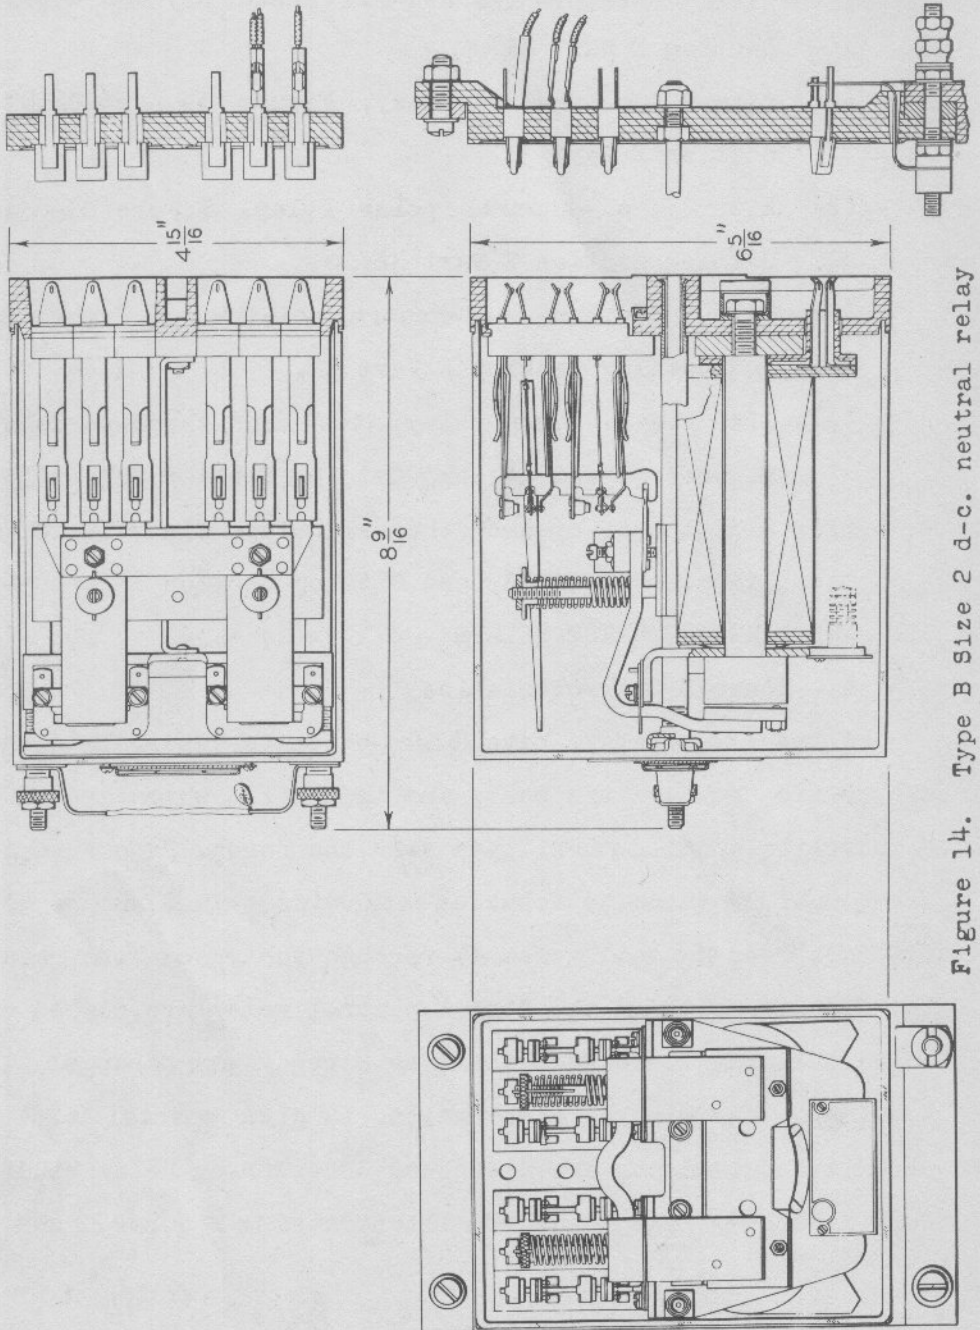

Figure 14. Type B Size 2 d-c. neutral relay
- (b) Size 2 d-c. neutral relay, Figure 14, and Catalog Section E Part 31.